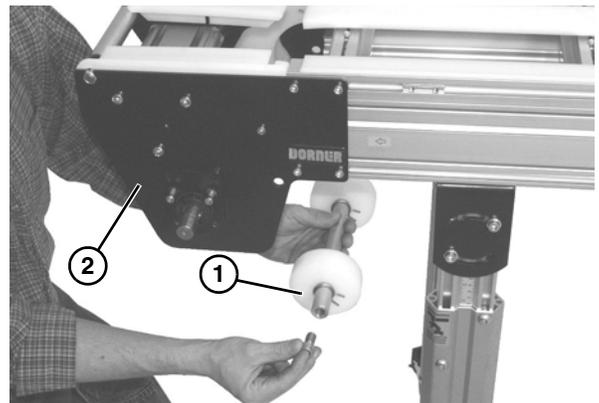

Figure 32
3. Lower roller assembly (**Figure 32, item 1**) from drive tail assembly (**Figure 32, item 2**).